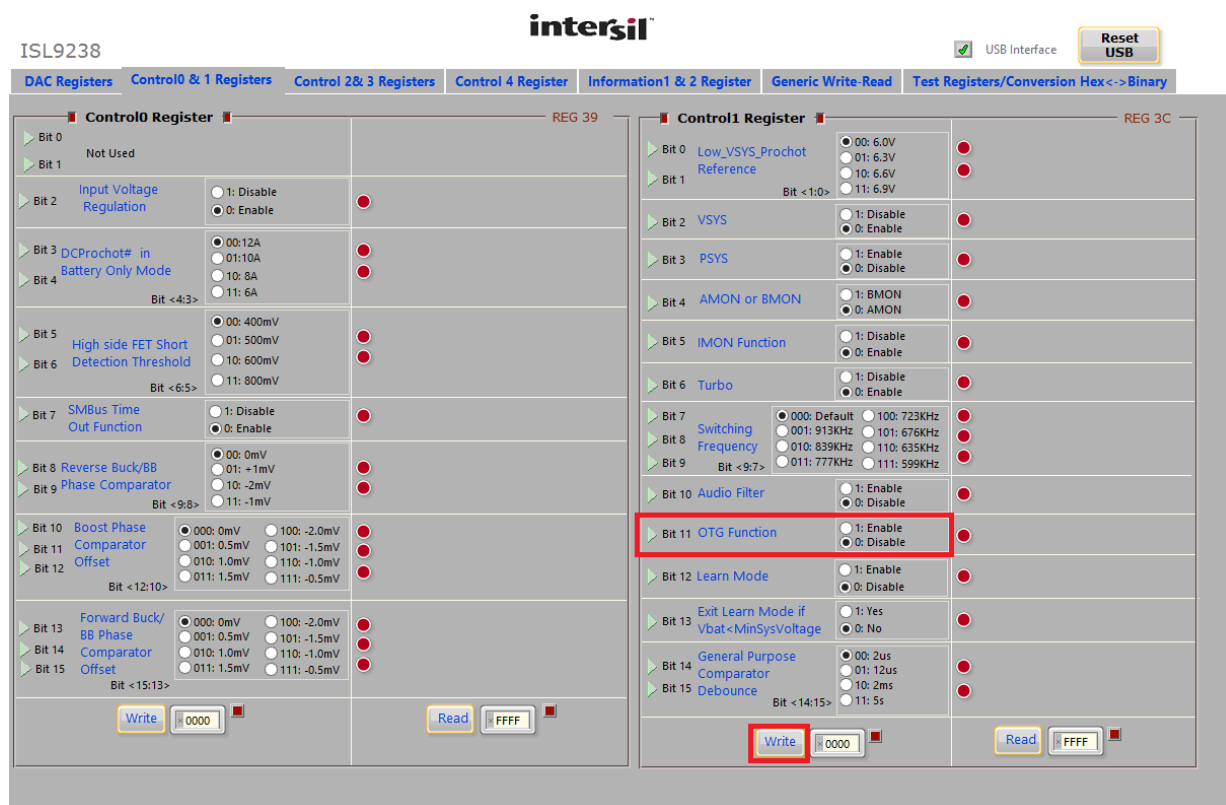

FIGURE 5. OTG FUNCTION ENABLE
5. Select the “Control0&1 registers” tab, enable the OTG function at Control1 register, then click the “Write” button, as shown in Figure 5 on page 5.
6. Switch SW2 on the evaluation board to the HI position; the load voltage is regulated as an OTGVoltage value, set in Figure 5, and the LED 3 light is on, which means the OTG function is enabled.